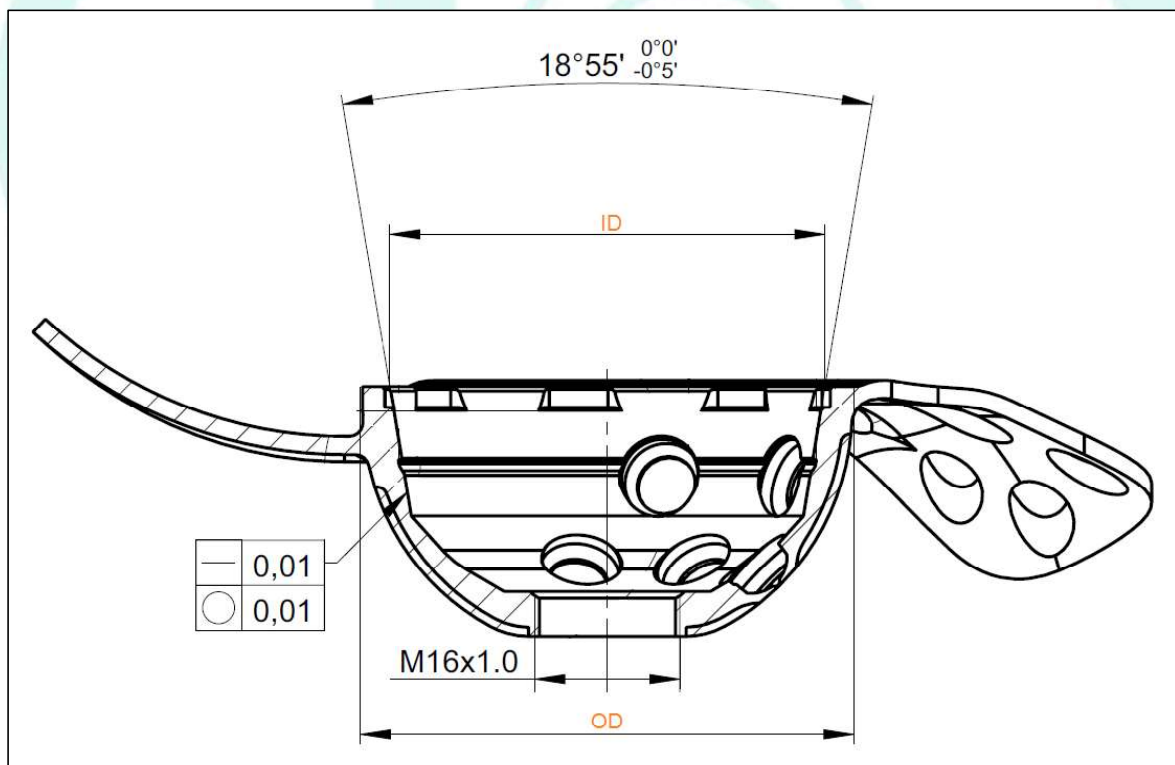

FIGURE 9. INNER (ID), OUTER (OD) DIAMETER, AND CONE ANGLE OF THE MUTARS® RS CUP
The *MUTARS® RS cups* are available in five sizes with outer diameters (OD) from 46 to 62 mm in 4 mm increments and 5 inner diameters (ID) from 39 to 52 mm. The sizes of the *MUTARS® RS cup* are provided in the following table (TABLE 3). Each size is available in left and right configurations (cf. FIGURE 9).